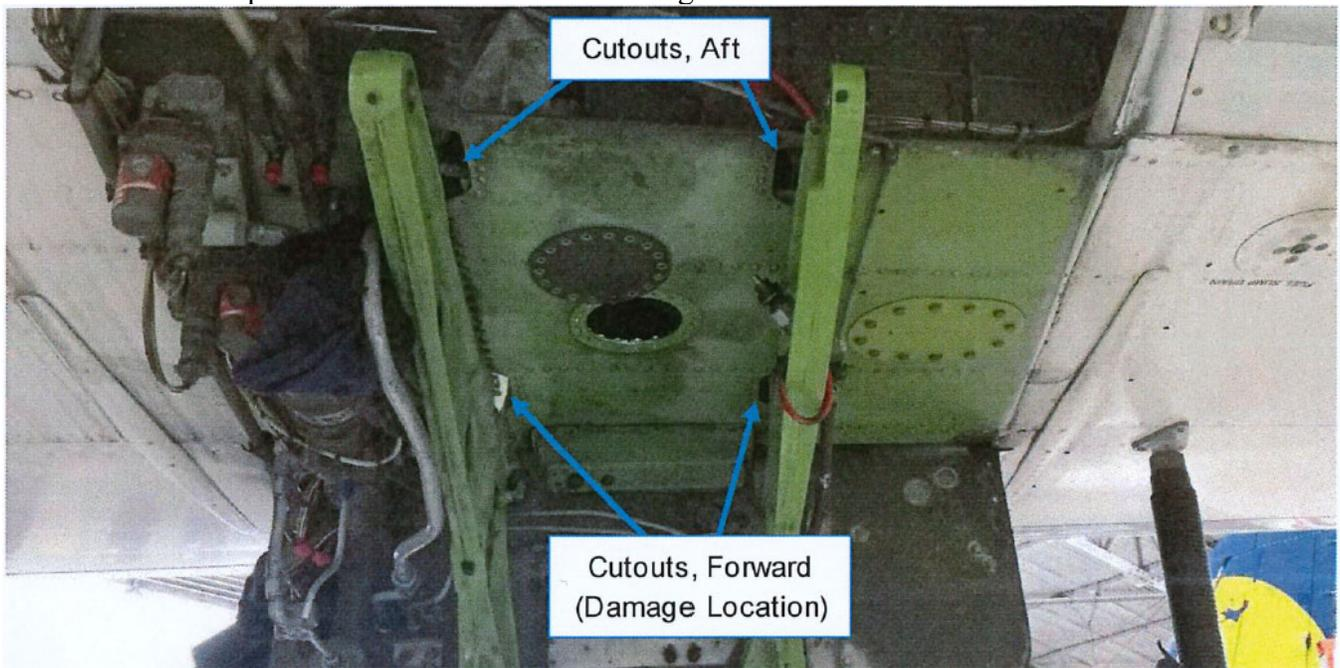

Figure 1, View looking forward and slightly up.
- b. Removal of the lower wing access door inside the nacelle may also aid in accessing the cutouts (Figure 1).
- a. HFEC Procedure: Perform High Frequency Eddy Current, on the lower wing skin – both inner and outer skins, and around the entire cutout edge, at the FWD MLG Truss cutouts (see Figure 1). Min detectible flaw length is 0.050” long. Skin alloy is Aluminum Alloy 2000 Series.